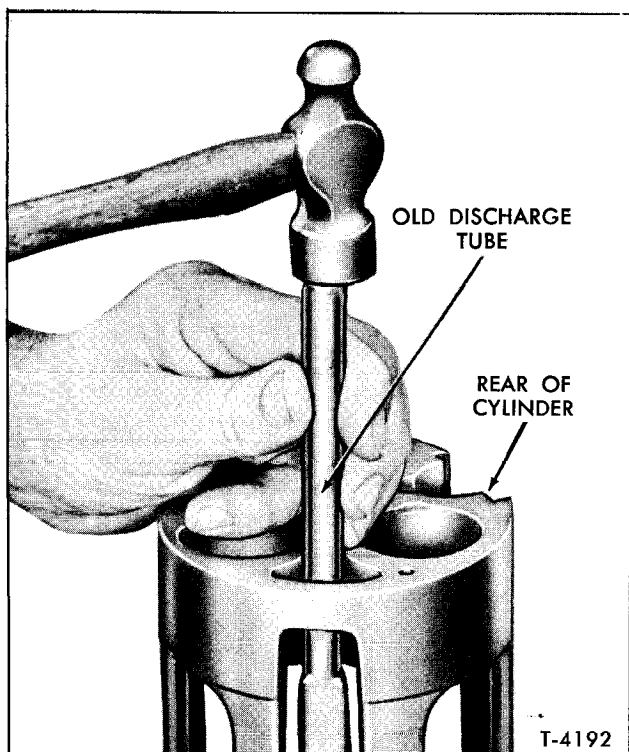

Figure 51—Unseating Discharge Crossover Tube
2. Use an old discharge tube to drive discharge tube out of cylinder (figure 51). (Drive from REAR of cylinder.)